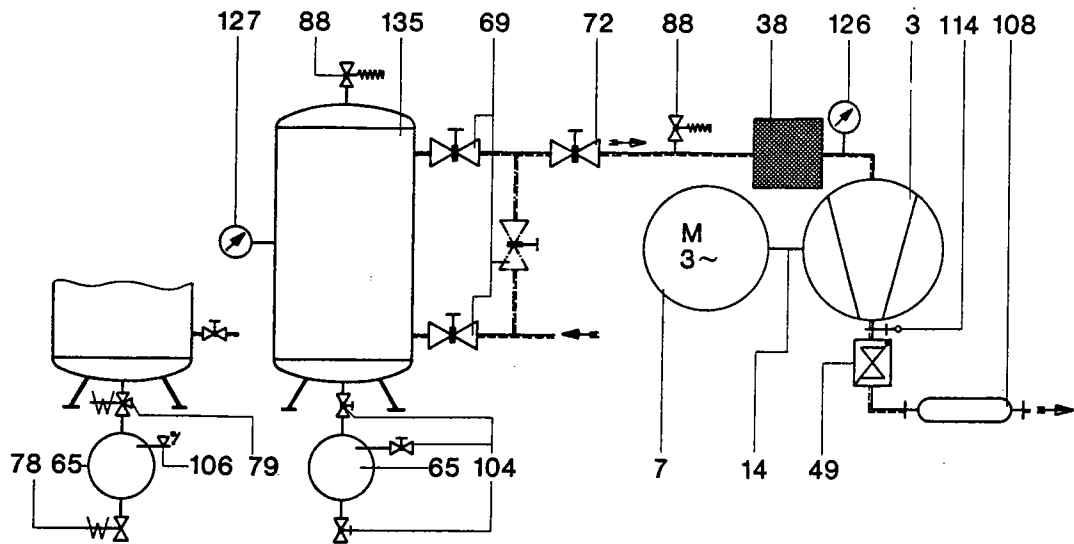

Fig. 3
To protect the compressor against mechanical contamination, a vacuum-tight filter should be built into the suction pipe for operation on vacuum (Fig. 3, item 38).
The vacuum relief valve is the control element in a vacuum plant. When the prescribed degree of vacuum has been reached it opens, allowing the vacuum pump to take in atmospheric air. The vacuum relief valve is built into the suction pipe (Fig. 3, item 88).
#### 2.45 Silencer ( applies only to vacuum pumps : Fig. 3, item 108 )